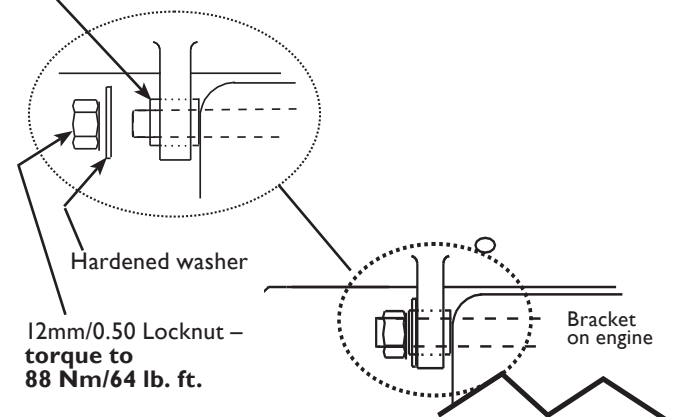

Figure 1 - C725 Alternator Installation Details
1. Install alternator as shown in Figure 1: